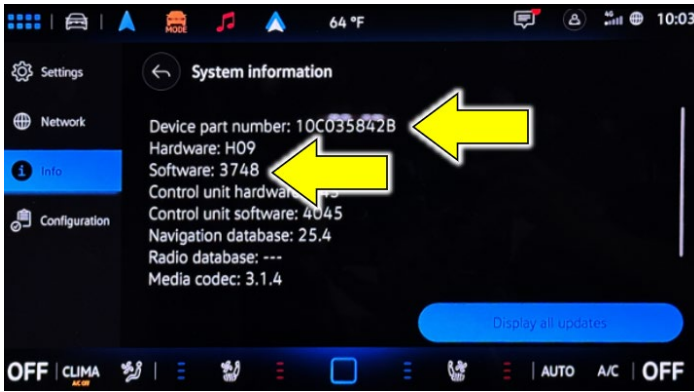

Figure 13: Part number and software
- Via the “Setup” button -> info -> system information, the “device part number” and the “software” (see figure 13) can be used to compare successful software update with the software table (see 16. Software table).